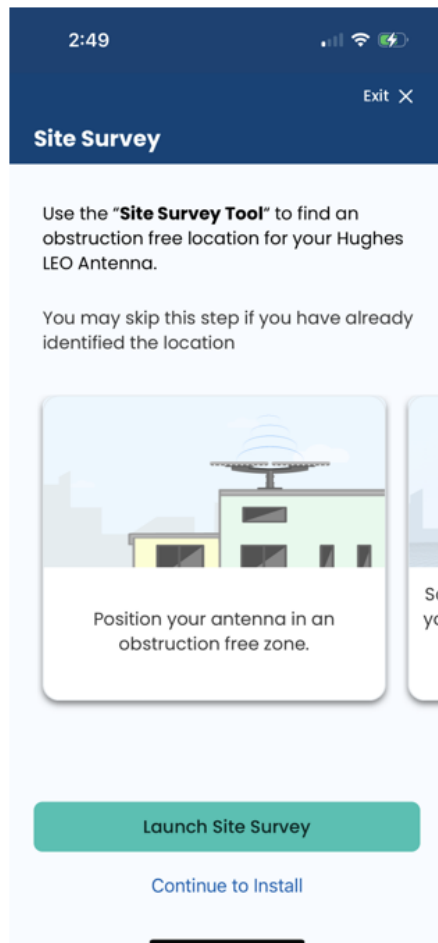

Figure 87: Skip or start site survey
1. You will see the screen (see Figure 87) to choose to do a site survey or skip if already done.